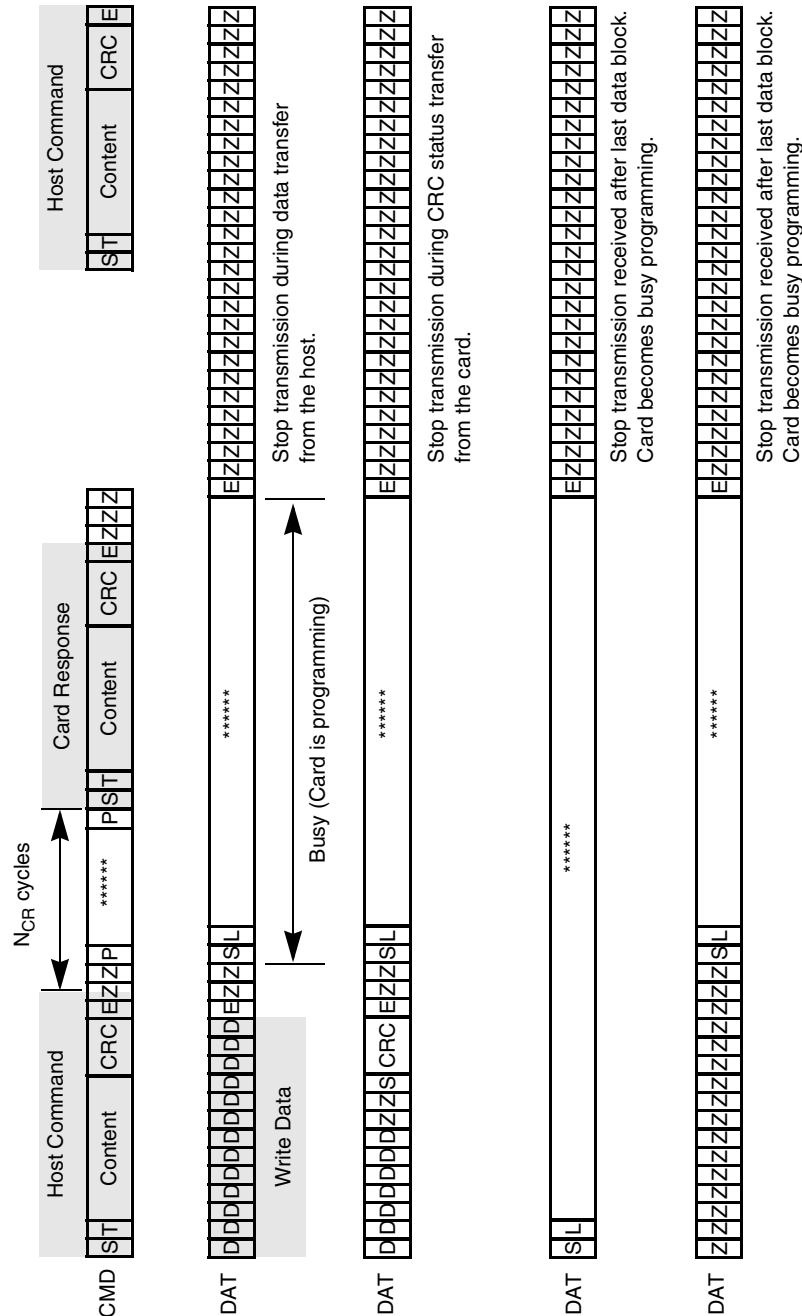

Figure 52. Stop Transmission During Different Scenarios
The card identification and card operation conditions timing are processed in open-drain mode. The card response to the host command starts after exactly NID clock cycles. For the card address assignment, SET\_RCA is also processed in the open-drain mode. The minimum delay between the host command and card response is NCR clock cycles as illustrated in Figure 48. The symbols for Figure 48 through Figure 52 are defined in Table 29.
**Table 29. State Signal Parameters for Figure 48 through Figure 52**
Table 30. Timing Values for Figure 48 through Figure 52
**Table 30. Timing Values for Figure 48 through Figure 52 (Continued)**